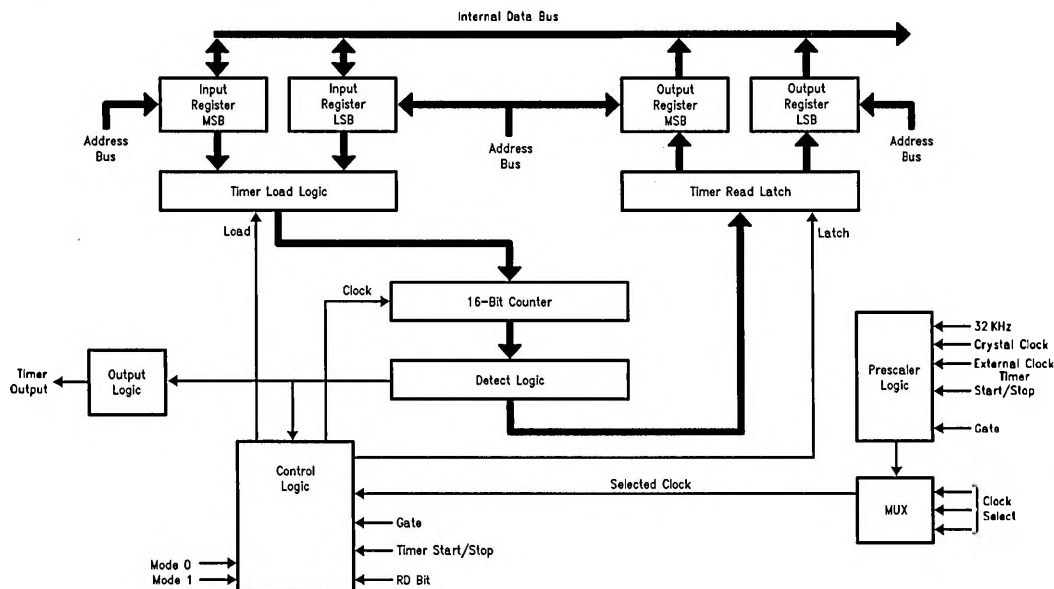

FIGURE 7. DP8570A Timer Block Diagram
Figure 7 shows the functional block diagram of one of the timers. The timer consists of a 16-bit counter, two 8-bit input registers, two 8-bit output registers, clock prescaler, mode control logic, and output control logic. The timer and the data registers are organized as two bytes for each timer. Under normal operations a read/write to the timer locations will read or write to the data input register. The timer contents can be read by setting the counter Read bit (RD) in the timer control register.